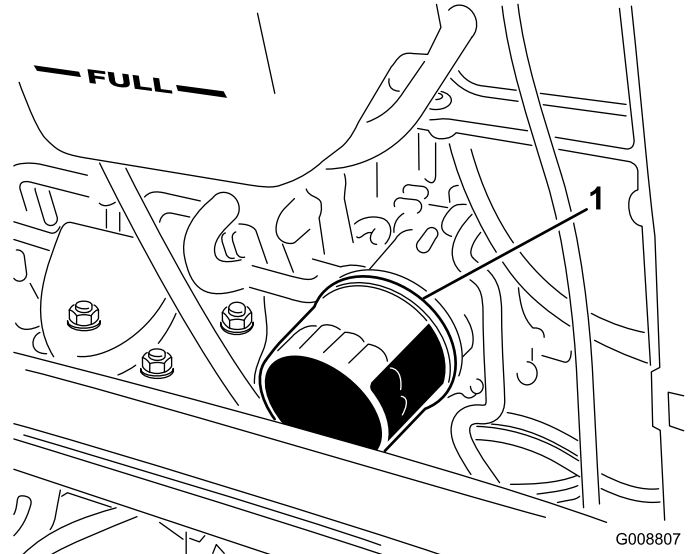

Figure 32
2. Remove the oil filter (Figure 32).